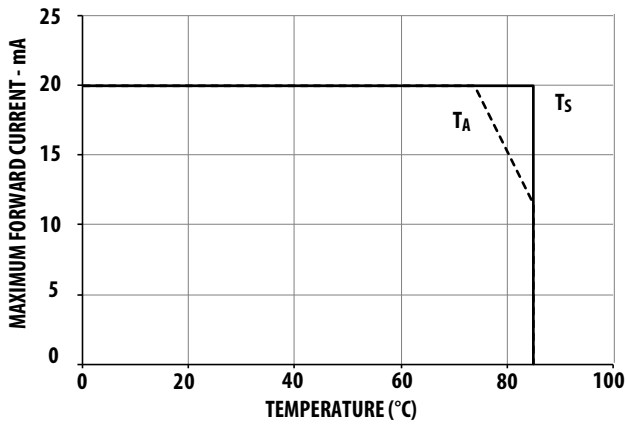
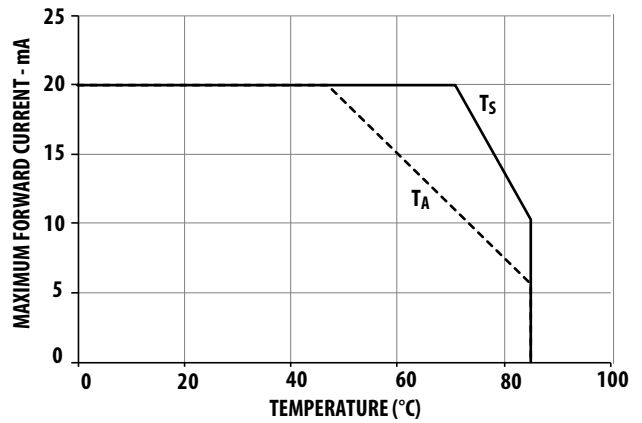

Figure 7. Maximum forward current vs. temperature for Red (1 chip on)
Figure 10. Maximum forward current vs. temperature for Green & Blue (3 chips on)
1. Derate as shown in Figure 7 to Figure 10.